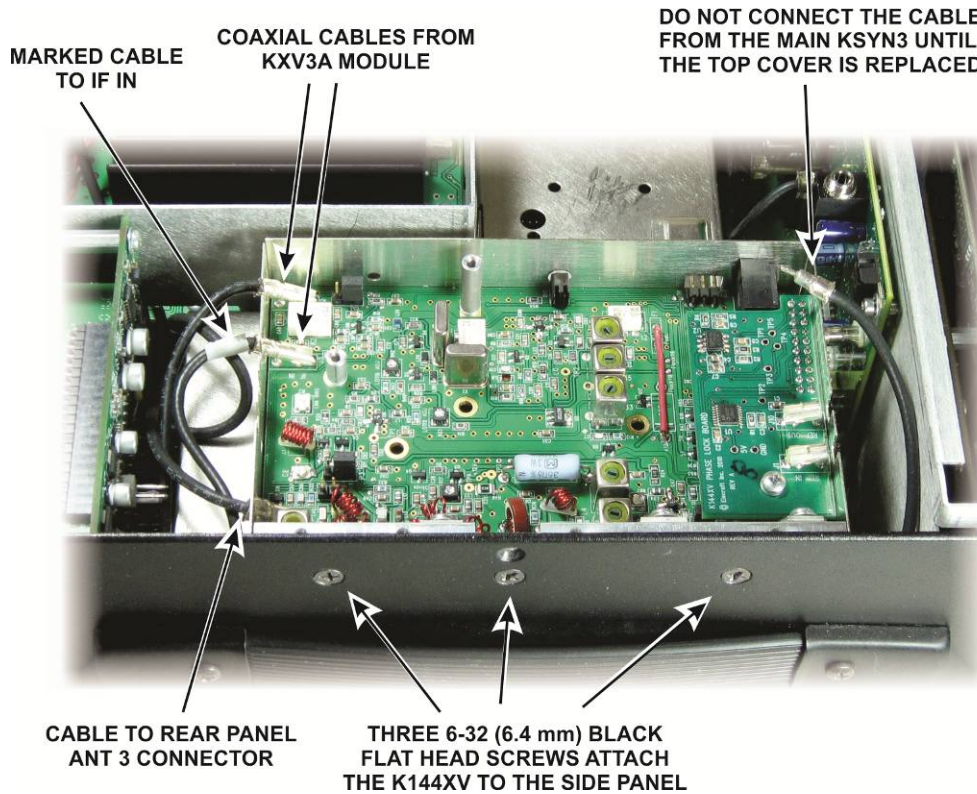

Figure 13. Replacing the K144XV Module.
1. Reconnect any coaxial cables you removed (see Figure 13), but do not connect the REF IN cable from the main KSYN3.